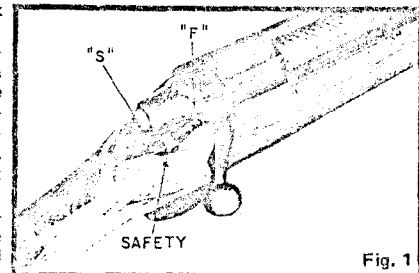

Fig. 1
**SAFETY (Fig. 1)** — To engage safety to ON SAFE position, rotate to rear stop position marked "S" on receiver. Bolt handle will be locked down and rifle will not fire. When rotated forward to fire position, marked "F" on receiver, safety will disengage. Trigger can be pulled to fire rifle or bolt handle raised to open action. **CAUTION:** Before firing, make sure barrel is clean, free of heavy oil, grease, or any obstruction. **TO SINGLE LOAD** — Raise bolt handle and pull rearward to open action. Place cartridge upon magazine follower or directly into chamber. Put safety ON SAFE. Close bolt. Lower bolt handle to lock action.
**TO MAGAZINE LOAD** — Open action. Load cartridge into magazine in conventional manner. Magazine may be loaded with four (4) standard caliber cartridges. Magnum magazine capacity is three (3) cartridges. If cartridge is loaded in chamber put safety ON SAFE before closing bolt.